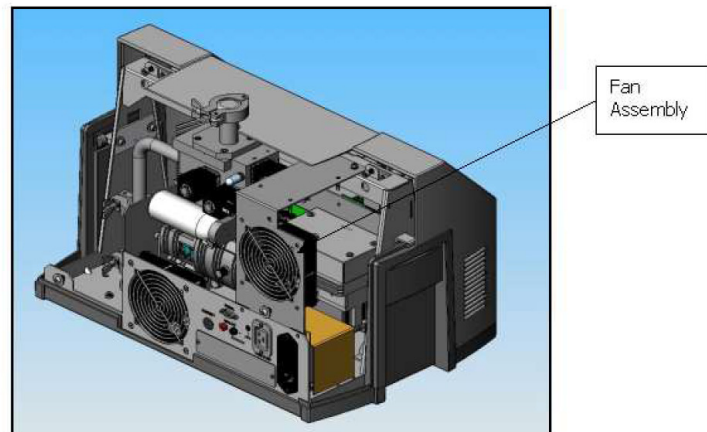

Figure 3-2. Fan assembly
5. Disconnect the fan cable and remove the fan assembly by unfastening two wing nuts and one M4 socket head cap screw (Figure 3-2).